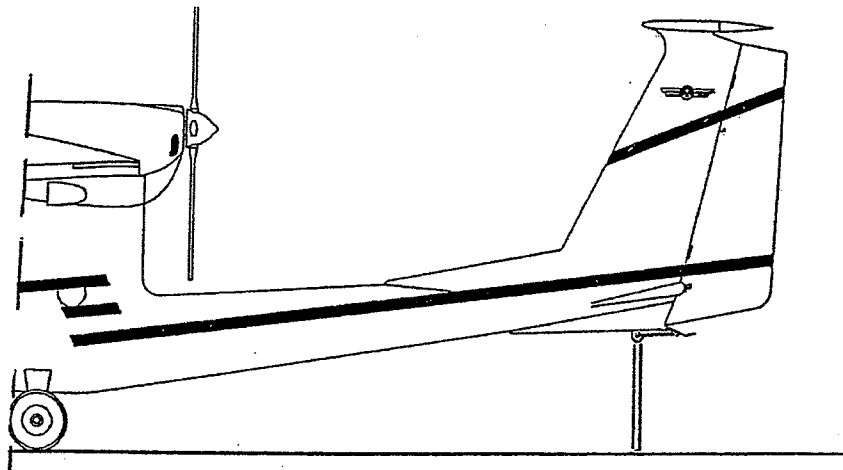

Fig. 8-3 - TAILSKID STAND
- Insert the tailskid stand as shown in Fig. 8-3